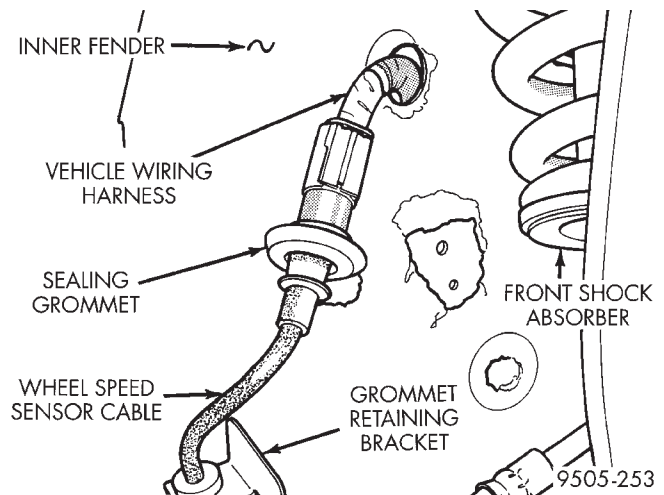

Fig. 32 Wheel Speed Sensor Connection To Vehicle Wiring Harness
(4) Remove speed sensor sealing grommet from the inner fender (Fig. 32). Then unplug the speed sensor cable from the vehicle wiring harness (Fig. 32).
(1) Connect the wheel speed sensor cable connector to the vehicle wiring harness (Fig. 32).